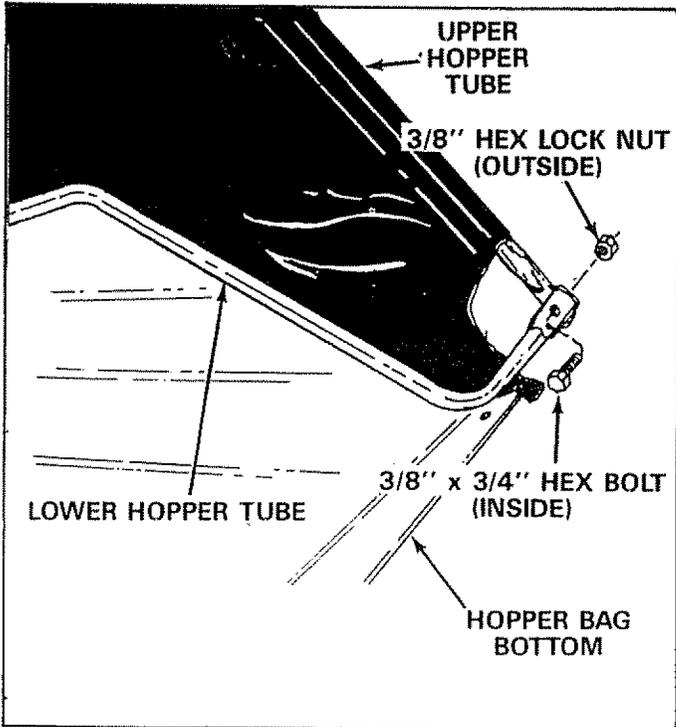

FIGURE 14
- Place assembled lower hopper tubes into bottom of hopper bag as shown in figure 14.
- Assemble the upper and lower hopper tube ends together with two 3/8" x 3/4" hex bolts, (inside) and 3/8" hex lock nuts (outside). See figure 14. Do not overtighten to allow for pivot.